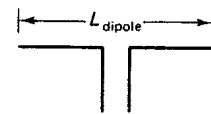

Fig. 6-18
- 6.5 Determine the length of a half-wave dipole antenna to be used to receive a 5-MHz radio signal. Assume that the velocity of electromagnetic waves on the antenna is  $3 \times 10^8$  meters/s. See Fig. 6-18.